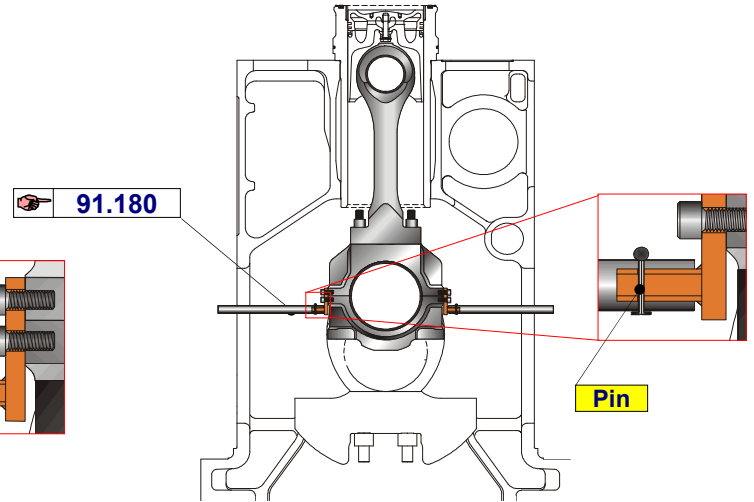

Fig. 2 Mounting of handling pipes
4. Install handling pipes on supports and insert locating pins in pipes as shown in fig. 2.